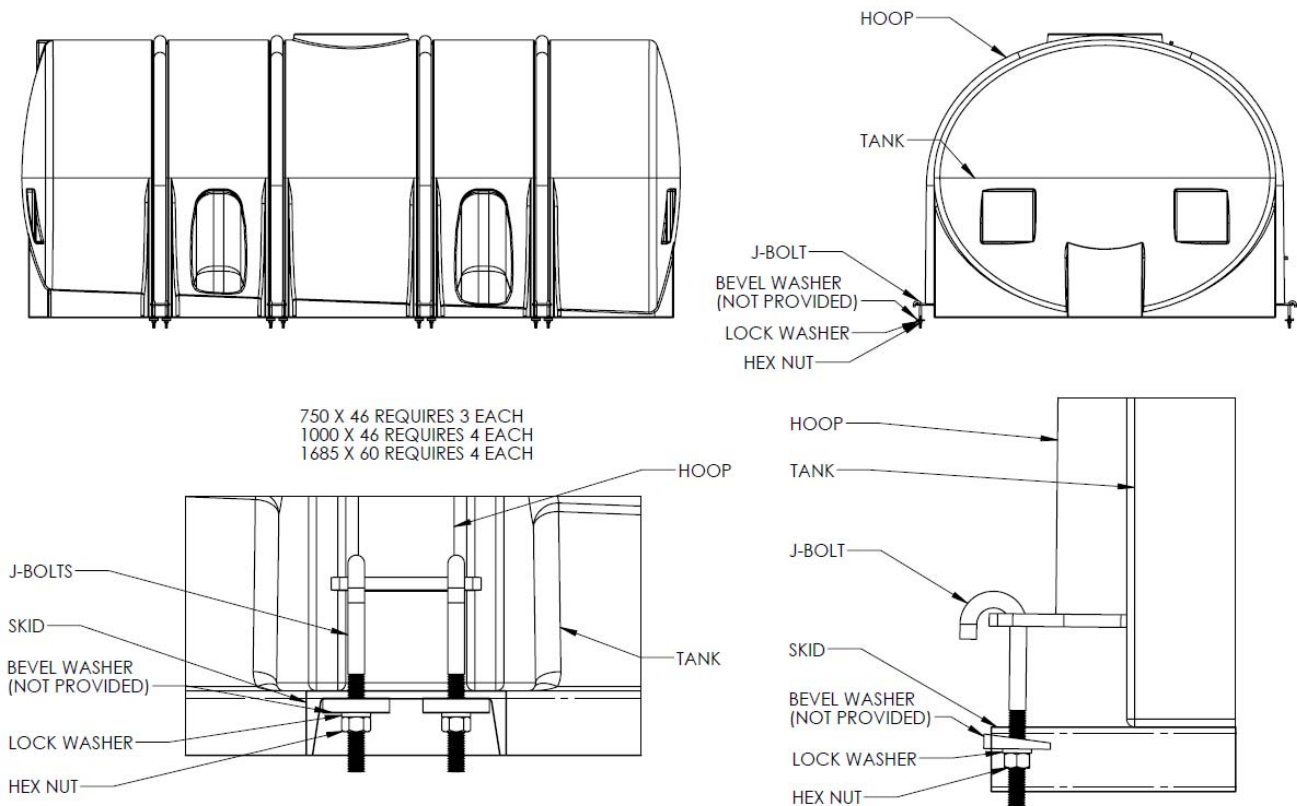

Figure 8.9
8.9.1 Horizontal leg tanks are to be used only with adequate support. The hoop pipe restraints restrain the leg tank and give it structural support. Hoop restraints are available for tanks 525 gallons and larger. Hoops are required on tank sizes above 730 gallons. An example assembly drawing is shown in Figure 8.9.
8.9.2 With one person on each side of the tank, insert J-bolts into the hoop holes and lift the hoop into position directly above the tank legs. Spread the hoop slightly while sliding the hoop (centered in the pipe guide channel formed into the tank legs) onto the tank. Install the bevel washer, lock washer, and hex nut on each of the J-bolts loosely. Do not tighten the hex nuts yet. See view A-A shown in Figure 8.9 for an illustration of the loosely assembled J-bolt/hoop assembly.